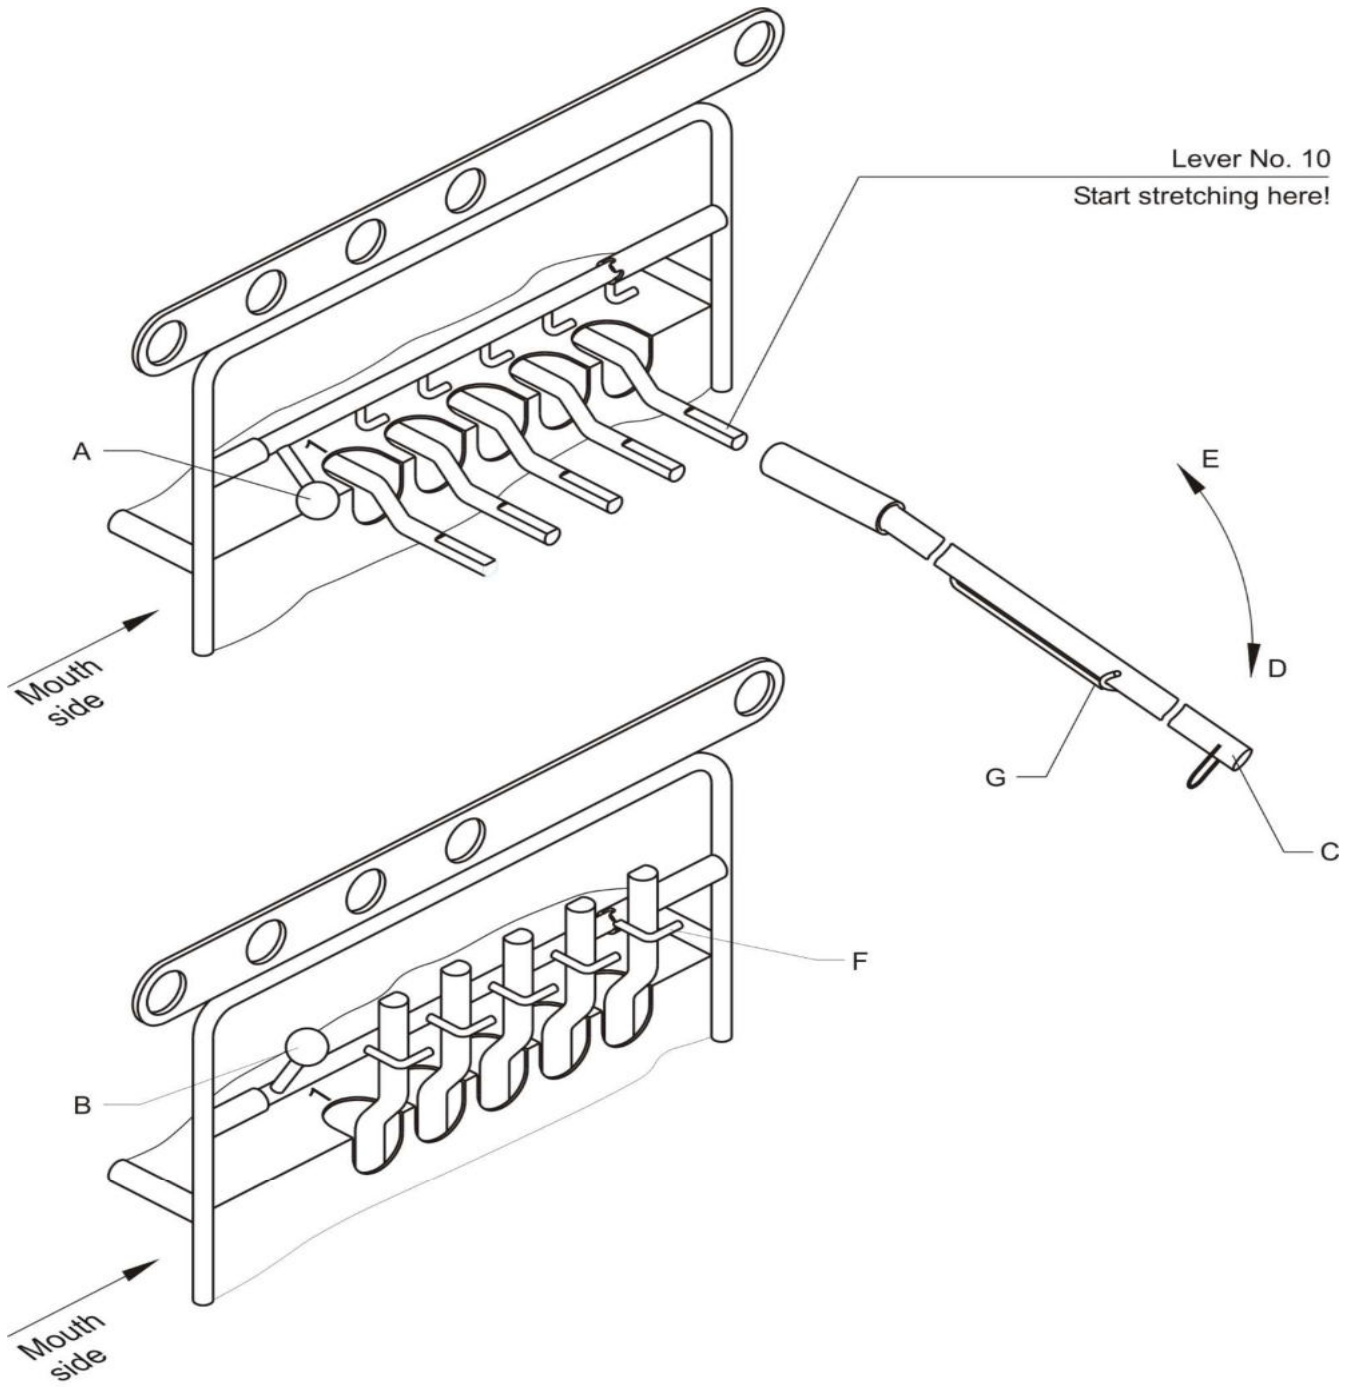

Fig. 8
5. Place the spring hook at the tension lever into the long eye of the tension spring of lever arm no. **1** (Fig. 8 C + G).